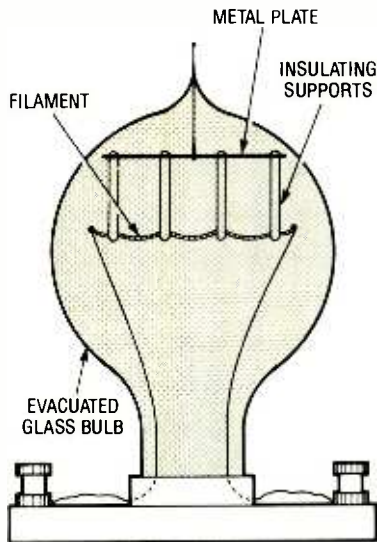

Fig. 1. This version of Edison's light bulb led to the diode vacuum tube.
*Fig. 1. As this breakaway diagram shows, the Sideswiper is composed of materials—the plastic base of a double-pole knife switch, fahnstock clips, brass corner bracket, a brass strip (the paddle), a block of wood, etc.—that are readily available from local sources.*
and needed a way to support a fragile filament. He arranged a metal plate in the bulb and used insulated supports from the plate to hold the filament in place (see Fig. 1). Power applied to the ends of the filament caused it to heat up and glow, but Edison also discovered that by connecting a second power source between the plate and the filament a current would flow through the vacuum, even though there was no direct electrical connection. Edison's experiments were concerned with electric light, so he did not see any practical use of the discovery.